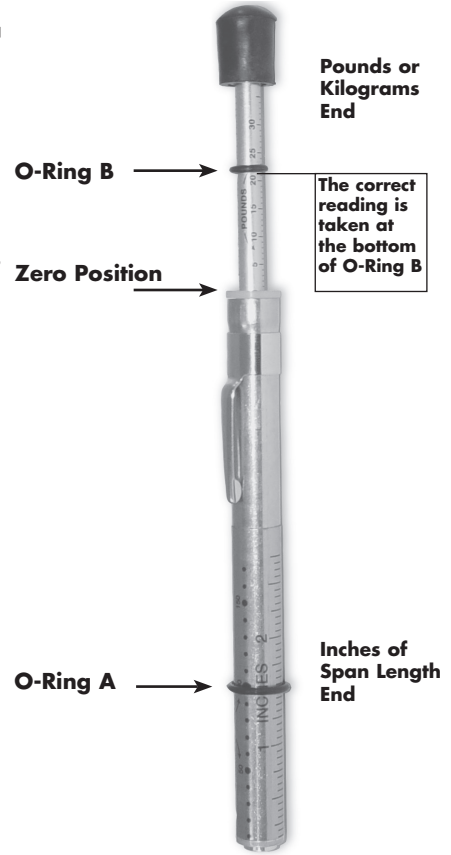

Figure 1
- Tool Preparation (figure 1)
**IMPORTANT** - The correct reading is taken at the bottom edge of O-Ring B. (figure 1)